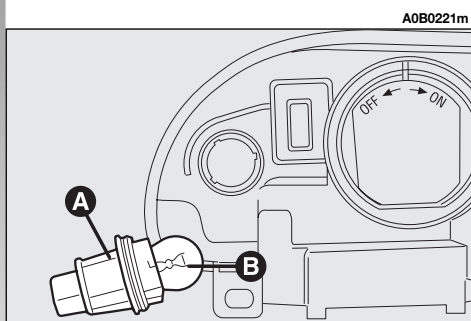

fig. 31
- Remove the bulb (**B-fig. 31**) from the bulb holder (**A-fig. 31**), pushing lightly and turning counter-clockwise.
- Replace the bulb (**B-fig. 31**).
— Refit the bulb holder (**A-fig. 31**) by making its notches coincide with the grooves in the headlight unit body and turn it clockwise.